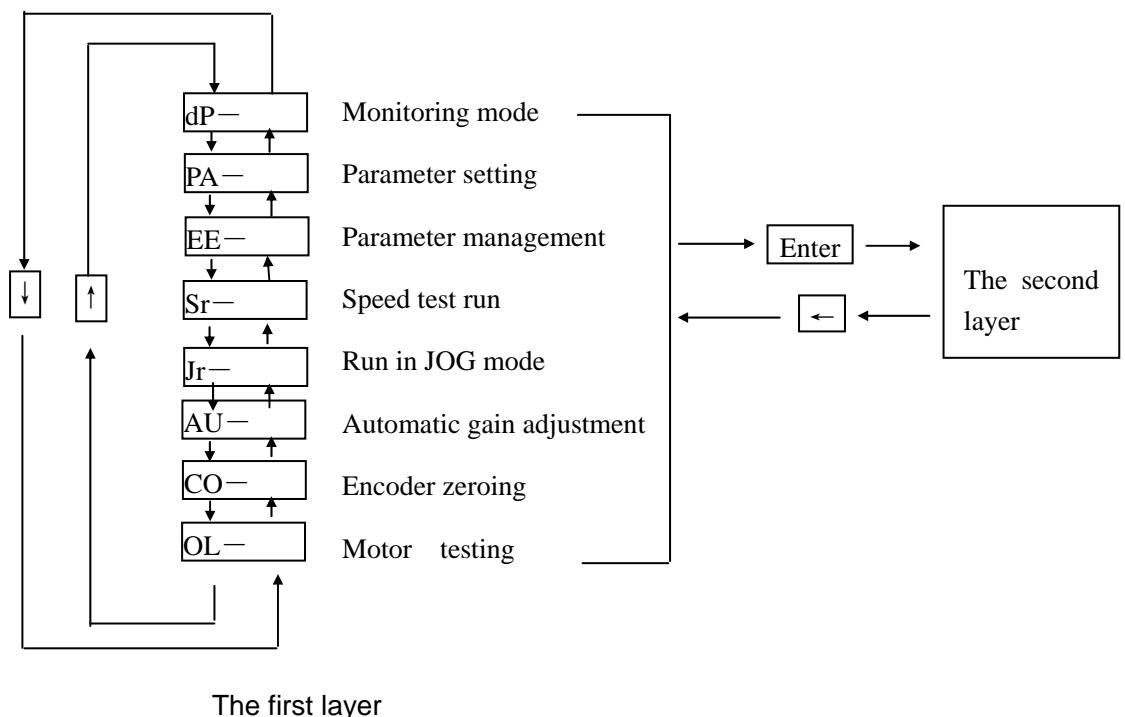

Fig. 6.1 Operating frame of mode selection
- Performance is executed by multilayer operating menus. The first layer is main menu that includes 8 operating modes and the second is the functional menu of each operating mode. Fig.6.1 is operating frame of main menu: